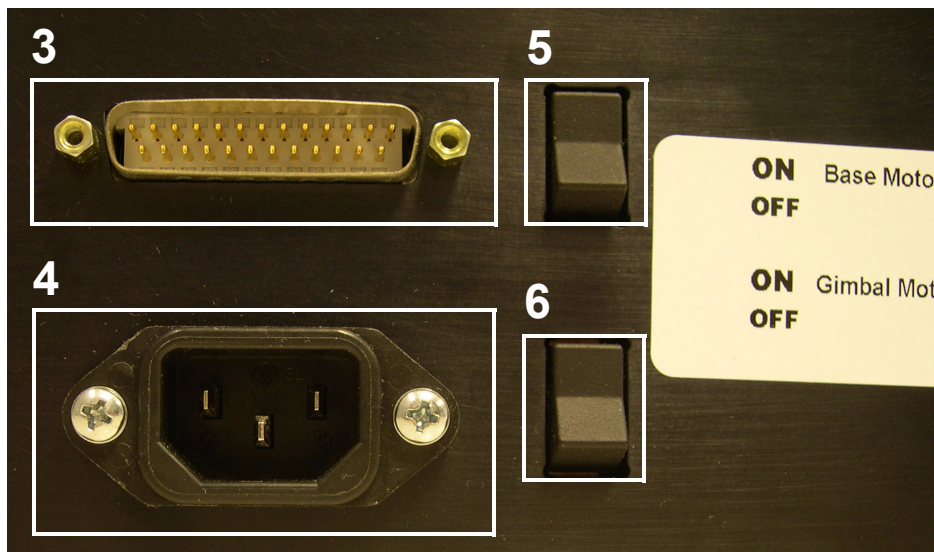

FIGURE 1-2. Connectors and switches on the rear of the PHANTOM Premium 1.5/6DOF
**Parallel Port To Computer** The male bottom connector is connected to the computer's parallel port using the supplied IEEE-1284 rated cable. (See 3 in Figure 1-2).
**AC Power Plug** The AC Power Plug is connected to the wall outlet with a power cord. The integral switching power supply in the base of the device works for both 115V and 230V AC supplies.(See 4 in Figure 1-2).
**Motor power switch for base motors (1.5/6DOF Only)** The first motor power switch is used to cut off the power to the three base motors which are responsible for translational force feedback. When the switch is in the “ON” position the motors and encoders are both connected. When the switch is in the “OFF” position, the encoders are still powered but the motors are not. This is a handy feature for debugging new haptics code. (See 5 in Figure 1-2).
(see 6 in Figure 1-2) the motors and encoders are both connected. When the switch is in the “OFF” position, the encoders are still powered but the motors are not. This is a handy feature for debugging new haptics code.